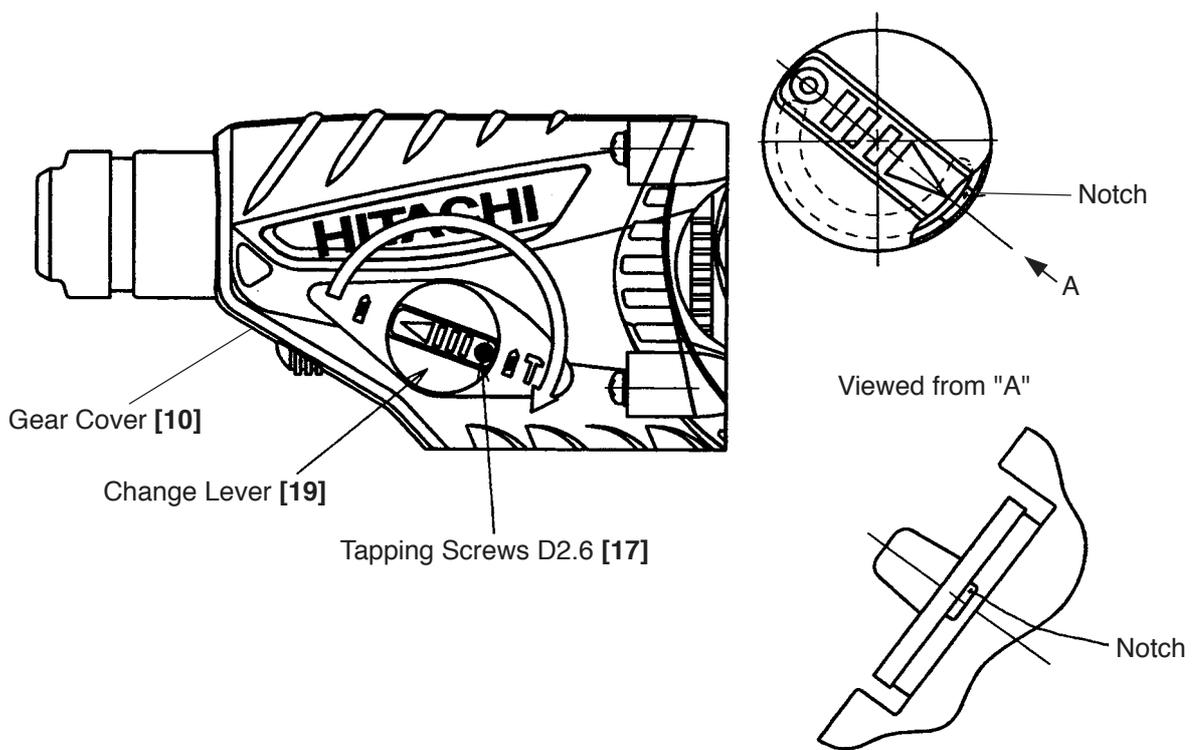

Fig. 11
Push in the Second Hammer **[26]** with a drill bit or a screwdriver. Remove the Striker **[34]** chucked by O-ring (C) **[31]**. The Change Lever **[19]** is positioned "Rotation Only" (  mark) as shown in Fig. 11. Remove the Tapping Screw D2.6 **[17]** and turn the Change Lever **[19]** by approximately 200° clockwise. Adjust the "△" mark of the Change Lever **[19]** to the center of the notch on the gear cover. Ply out the Change Lever **[19]** at this position. Remove the Tapping Screw (W/Flange) D5 x 25 (Black) **[9]** from the Gear Cover **[10]** and remove the Gear Cover **[10]**.